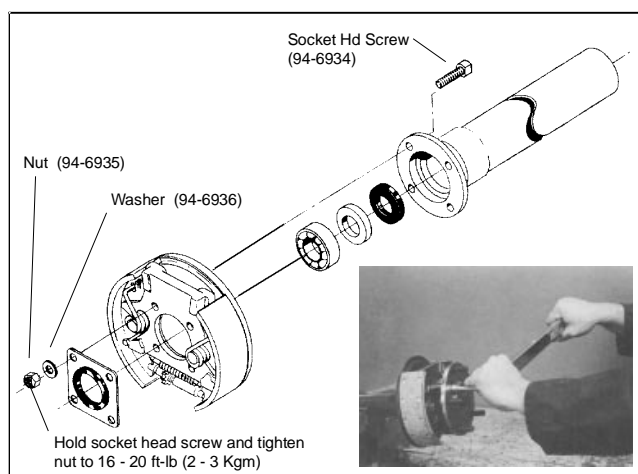

Figure 18
**NOTE:** When servicing the bearing and seal area of the axle shaft, it is recommended that you replace hex head screws and flange nuts with socket head screws (94-6934), washers (94-6936) and nuts (94-6935). See Figure 18.
14. Start the nuts by hand. Tighten the nuts so the bearing assembly is drawn evenly into the axle housing (Fig. 18). **NOTE:** It is recommended that you replace hex head screws and flange nuts with socket head screws, washers and nuts (Fig. 18). If installing socket head screws, tighten the nuts to a torque of 16 - 20 ft.-lb. (2 - 3 Kgm). If reinstalling hex head screws, tighten the nuts to a torque of 37 - 45 ft.-lb. (5 - 6 Kgm).